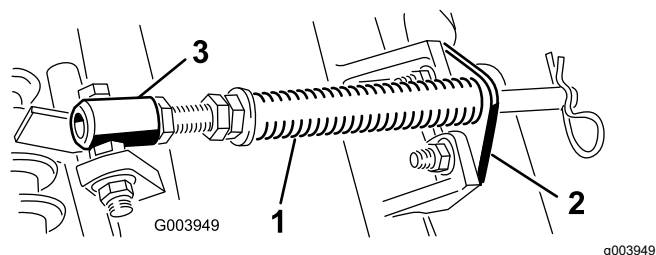

Figure 4
- A. Remove the 2 carriage bolts and nuts securing the rod bracket to the cutting unit tabs (Figure 4).
- B. Remove the flange nut securing the spring tube bolt to the carrier frame tab (Figure 4), and remove the assembly.
Note: Position the bolt head to the outer side of the tab as shown in Figure 4.